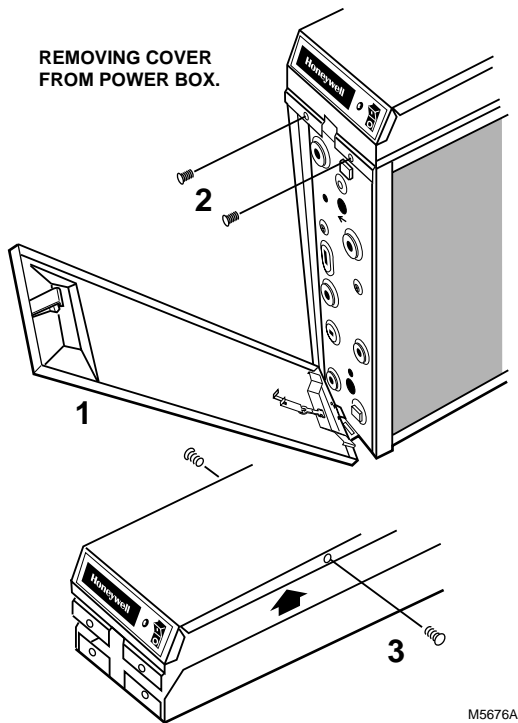

Fig. 1. Remove cover from power box.
- Open access door. See Fig. 1.
- c. Remove the power box cover. See Fig. 1.